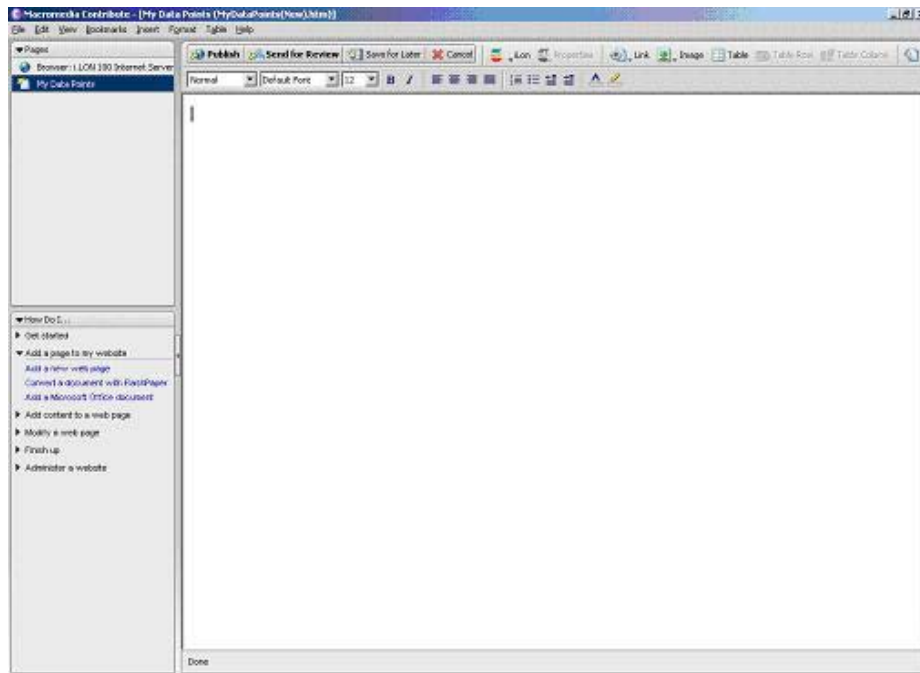

Figure 13.33 Blank Web Page Window
2. Select **Blank Web Page** as the page type, enter a name for the page in the Page Title box, and then click **OK**. The window shown in Figure 13.33 opens.